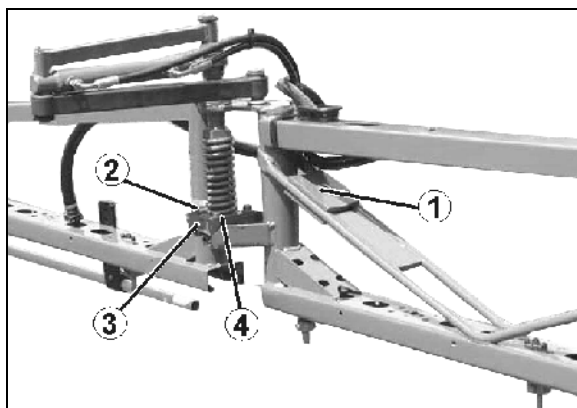

Fig. 146
If this is not the case, with the swing compensation **unlocked** align the folded-out sprayer boom by means of counterweights (Fig. 146/1). Secure the counterweights to the boom extension accordingly.
1. Release the screws (Fig. 146/2) of the securing link (Fig. 146/3). The boom is aligned directly at the plastic catch (Fig. 146/4) through the slotted holes of the securing link.
3. Tighten the screws (Fig. 146/2).